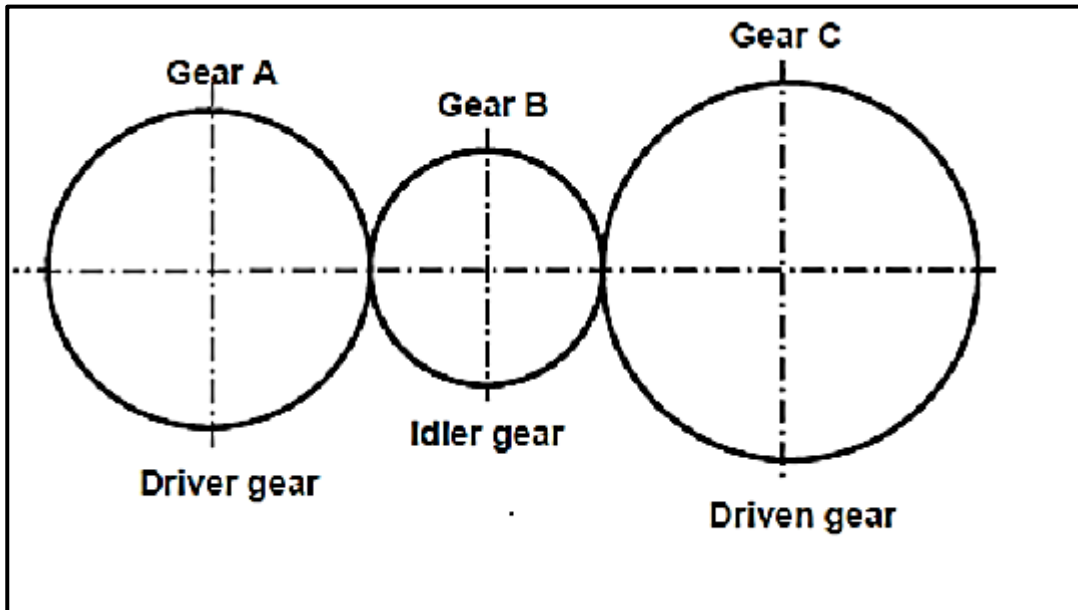

FIGURE 11.6
- 11.6 The gear system in FIGURE 11.6 below is used to control a hoisting device. The driver gear has 56 teeth and rotates at 700 r/min. The idler gear used to change the direction, rotates at 980 r/min. The driven gear has 64 teeth.